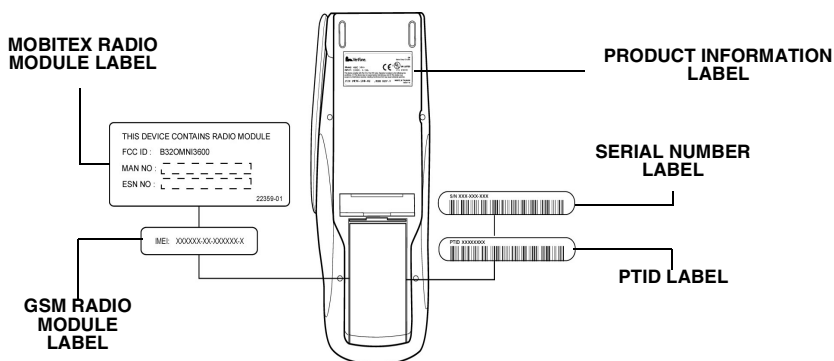
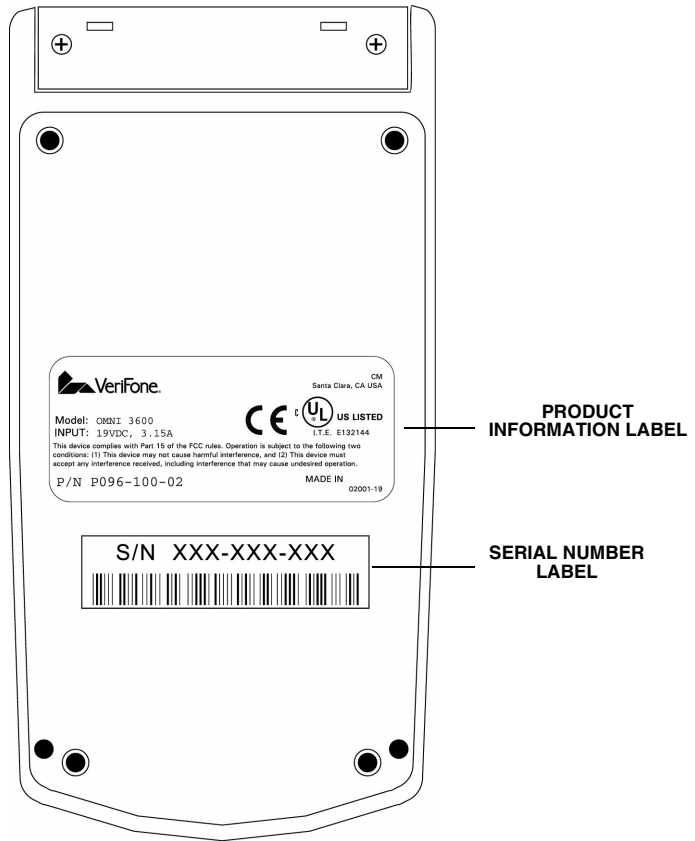
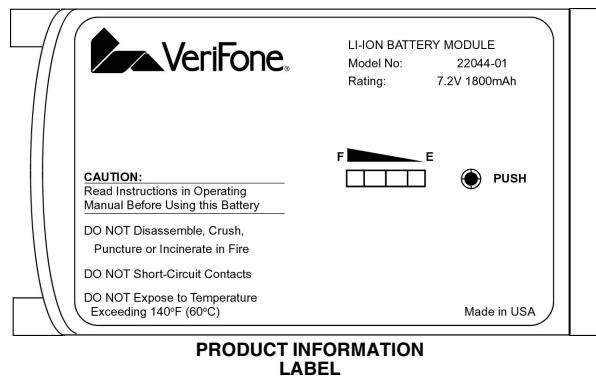

Figure 29 Omni 3600 Terminal Information Label Locations
Figure 30 Omni 3600 Base Information Label Locations
Figure 31 Smart Battery Information Label Locations
- 1 Gather the following information from the printed labels on *each* Omni 3600 terminal (Figure 29), Omni 3600 base (Figure 30), and smart battery (Figure 31) you are returning: